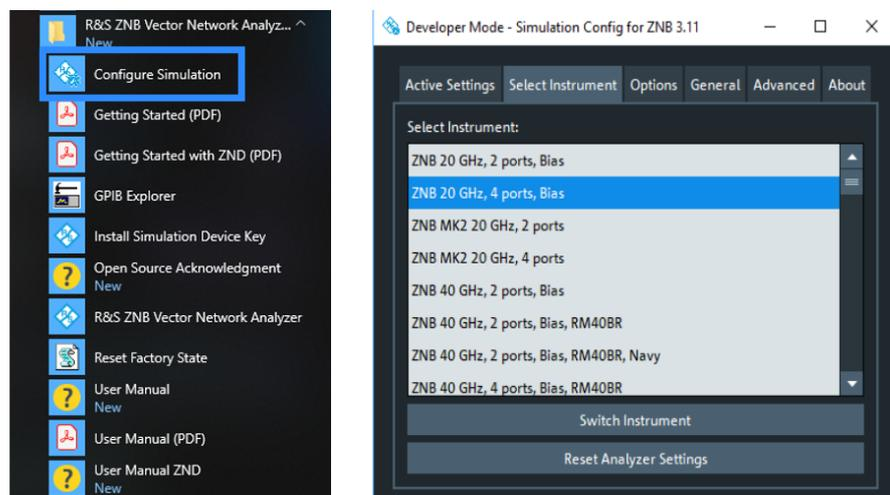

Figure 4-1: Instrument selection
- The R&S ZNB firmware can be run as R&S ZNB, R&S ZNBT, or R&S ZND (see Figure 4-1). It also comprises the documentation for all these instruments.